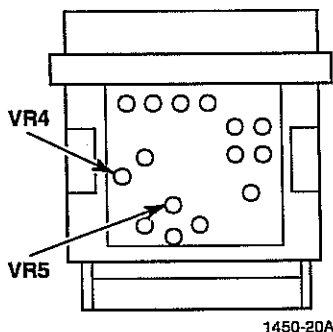

Figure 3-15.
- b. Adjust VR4 (Figure 3-15) for $3.00 \text{ VDC} \pm 0.05 \text{ VDC}$.
- b. Adjust VR5 (Figure 3-15) for $3.00 \text{ VDC} \pm 0.05 \text{ VDC}$.